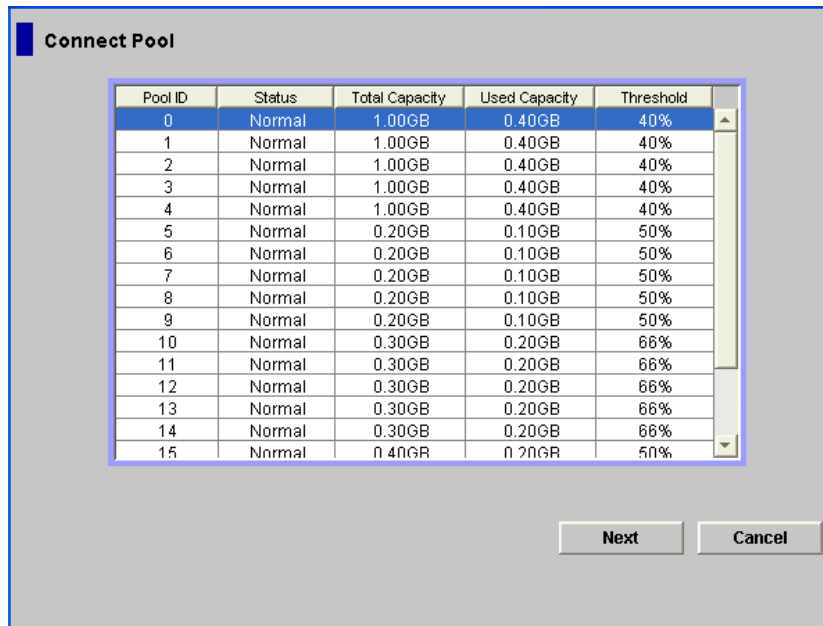

Figure 5-11 Selecting the Pool
3. On the right side of the window, right-click one or more V-VOLs, and select **Associate V-VOL with Pool** to display the **Connect Pool** dialog box (see Figure 5-11). You can only select from rows with black font.